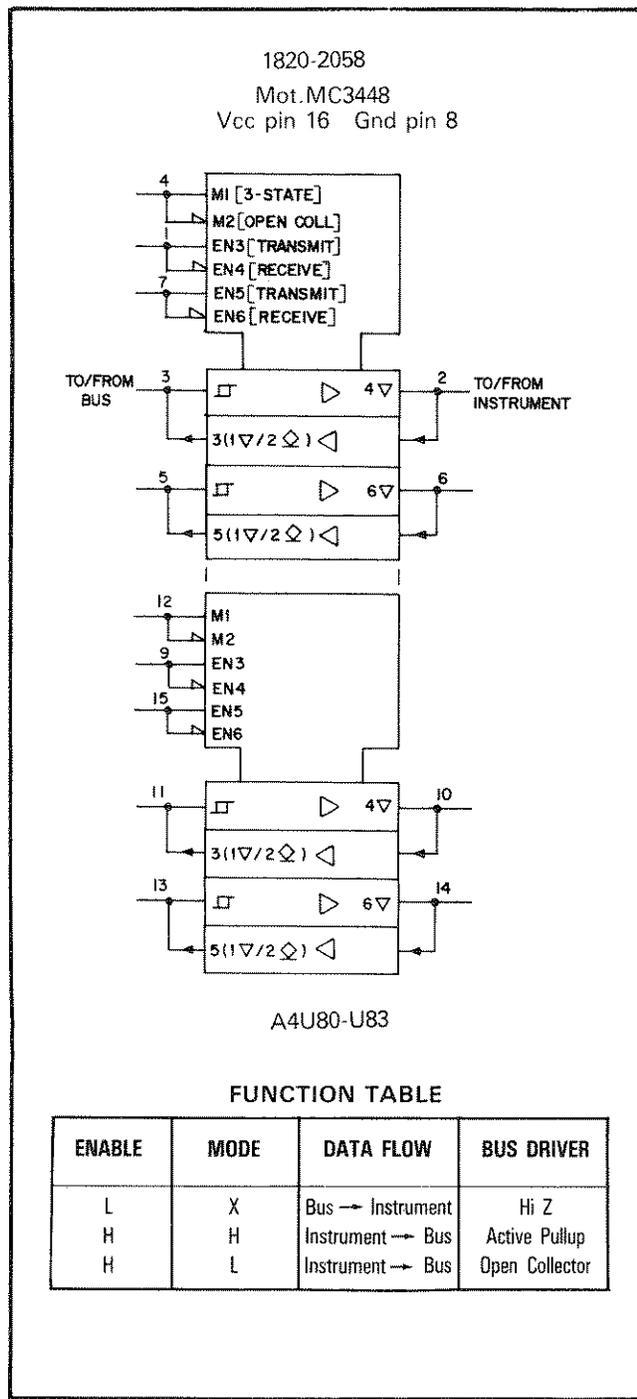

Figure B-31. Bus Transceiver
**Bus Transceiver.** Figure B-31 shows a bus transceiver that provides bidirectional interfacing between the unit and the HP-IB. The device contains four transceivers; the following describes the section connected between pins 3 and 2.  $\square$  indicates that the bus receivers have bithreshold (Schmitt Trigger) inputs. Enable 3 (active high) and enable 4 (active low) enable either the transmitter output at pin 3 or the receiver output at pin 2. The transmitter output is either three-state active pullup (mode 1) or open collector (mode 2).